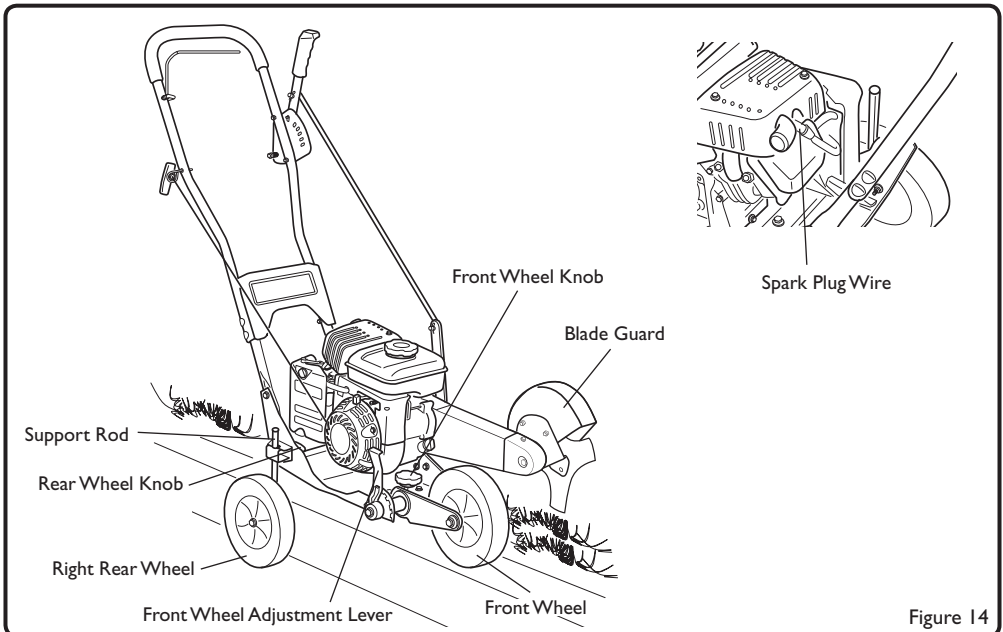

Figure 14
Because the front wheel and the right rear wheel are adjustable, the edger can be used on uneven surfaces, such as a curb shown in Figure 14. Set the wheel position as follows:
6. Use the curb height adjustment lever to lower the front wheel. Lower the front wheel until the front wheel is level with the left rear wheel and the unit is sitting on the curb. (See Figure 14)